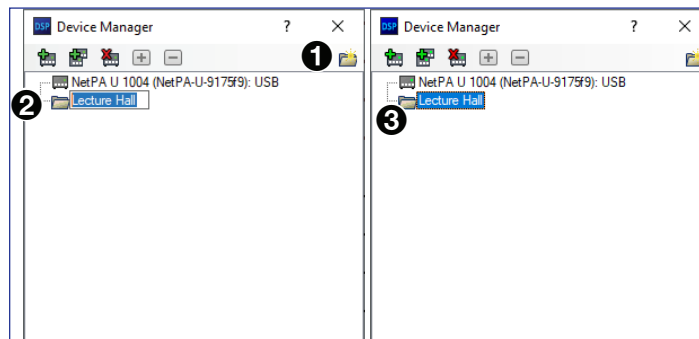

Figure 77. Arranging Devices Into a Folder
1. From the Device Manager dialog box, click the **New Folder** button (see figure 77, ①).
2. Enter a name for the folder. The text for the folder name is automatically highlighted and ready to be edited (②).